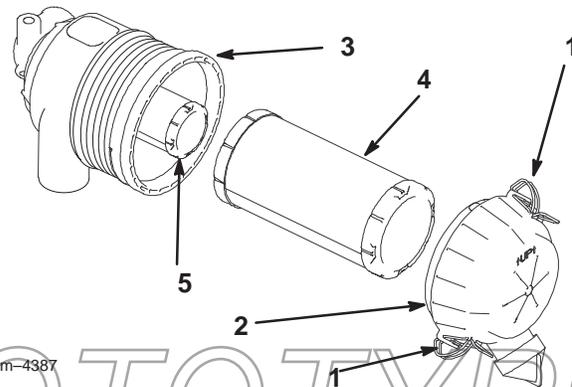

Figure 20
- Release the latches on the air cleaner and pull the air cleaner cover off of the air cleaner body (Fig. 20).
- Gently slide the primary filter out of the air cleaner body (Fig. 20). Avoid knocking the filter into the side of the body. Do not remove the safety filter, unless you intend to replace it as well.
2. If the safety filter is being replaced, carefully slide it into the filter body (Fig. 20).
3. Carefully slide the primary filter over the safety filter (Fig. 20). Ensure that it is fully seated by pushing on the outer rim of the filter while installing it.
4. Install the air cleaner cover with the side indicated as UP facing up and secure the latches (Fig. 20).